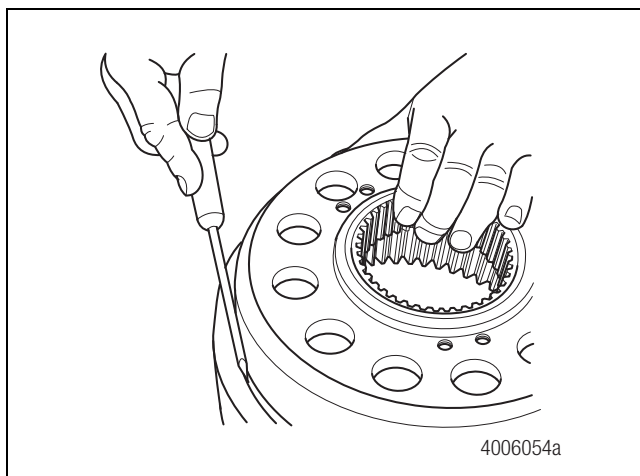

Figure 4.16
3. If inspection or replacement of damaged parts is necessary, remove the snap ring from the ring gear assembly to separate the ring gear from the ring gear carrier. Figure 4.16.